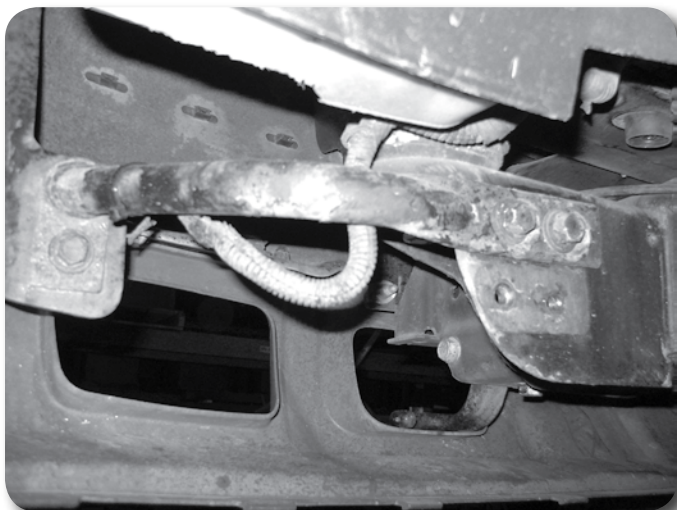

Figure 25
51. Loosely fasten the original outer support bracket to the new holes in the front body mounts with the factory bolts along with the 10mm nuts and 3/8" USS flat washers. **Figure 25** Also, attach the supports to the original location on the bumper with the factory hardware. Leave all hardware loose.